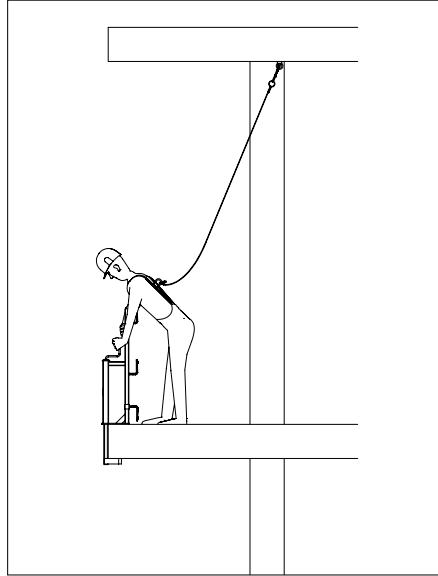

Fig. E.02
- If possible, select attachment points above the head. (Fig. E.02/E.03)
- With a suitable attachment point for the use of personal protective equipment against falling. (Fig. E.02/E.03)